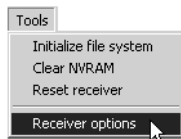

Figura 4-12. Tools->Receiver Options
2. Haga clic en **Tools->Receiver Options** (Herramientas-> Opciones del Receptor) (Figura 4-12).